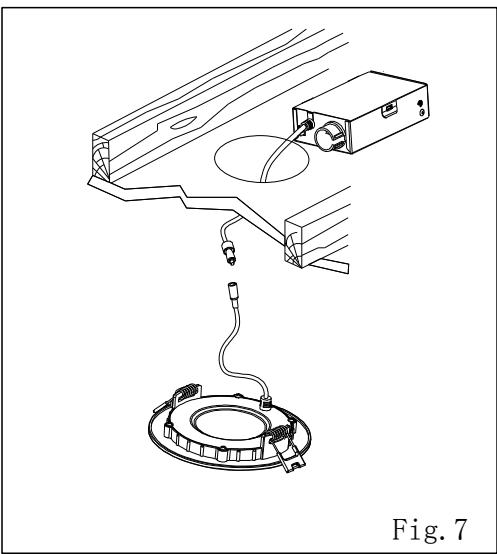

Fig. 7
8. Connect the low voltage cable to the fixture - the arrows on the male and female parts of the connector between the driver and the fixture should match. (Fig.7)